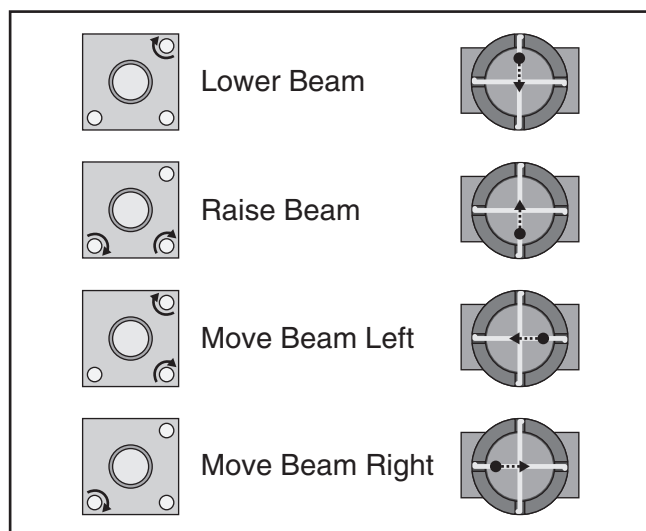

Figure 128. Mirror thumbscrew adjustment.
12. Adjust direction of beam path by tightening thumbscrews depending on desired direction of beam travel (see **Figure 128**).
17. Adjust direction of beam path by tightening thumbscrews depending on desired direction of beam travel (see **Figure 128**).